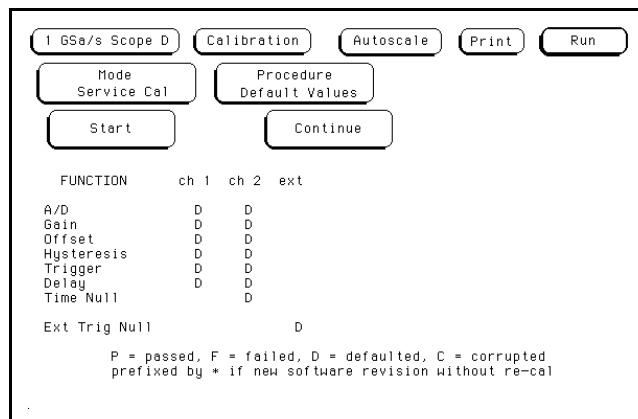

Figure 4-3. Default Calibration Display
4. Touch the **Start** field and follow the instructions on the display. The display should now look similar to the display shown in figure 4-3.